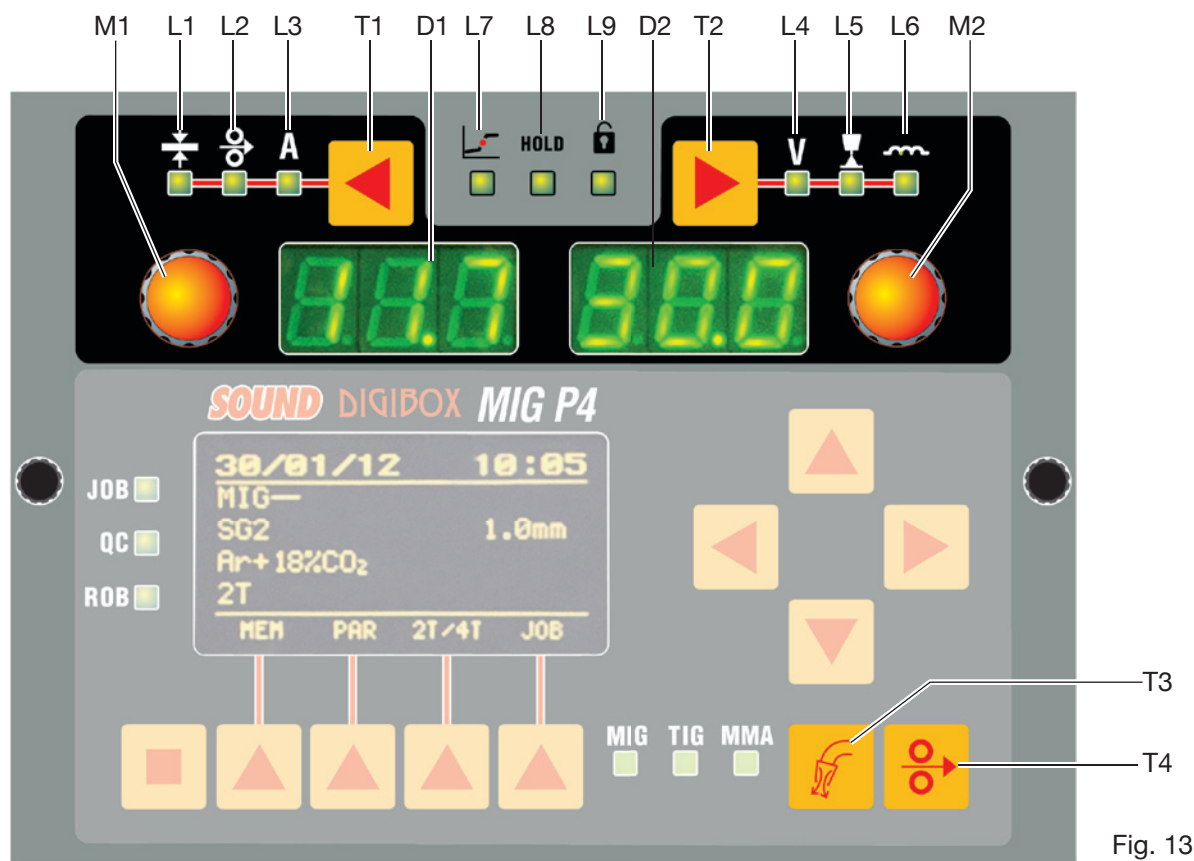

Fig. 13
The control panel consists of a **control area** (Fig. 13) and a settings area (Fig. 14).
6.1 CONTROL PANEL (FIG. 13).